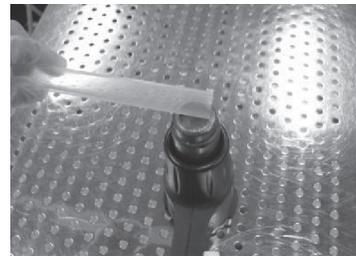

Figure 2
1. Using a hot air gun, place the setting on "high." Hold the PFA tubing end flush with the heater edge and 12.7 mm to 19.05 mm (½" to ¾") above the heater and slowly rotate the tubing 360° for two minutes (Figure 2).